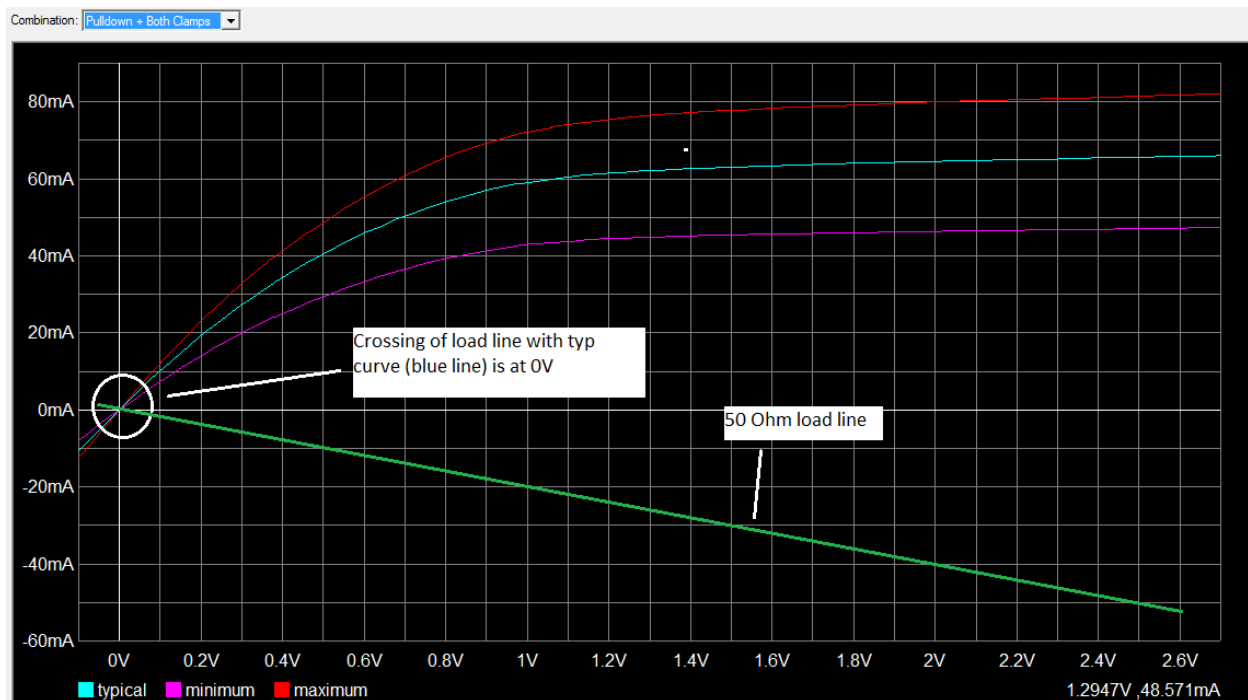
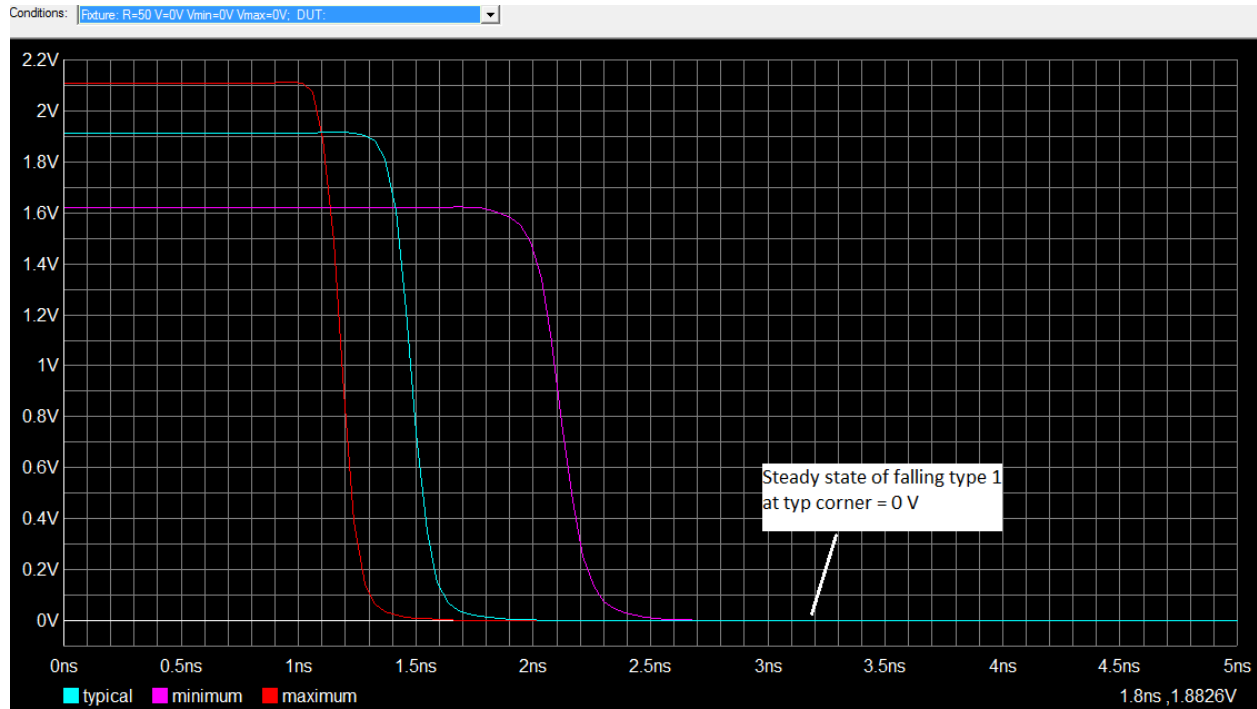

Figure 6-1. Crossing of 50 Ohm load line with the typical Pulldown + Both Clamps curves
Figure 6-2. Steady state voltage of the typical falling characteristics with $V_{\text{fixture}} = 0 \text{ V}$
- As shown in Figure 6-1, the crossing of the 50 load line with the typical Pulldown + Both Clamps curve (blue line) = 0V is similar to the steady state of the falling characteristic type 1 = 0V in Figure 6-2